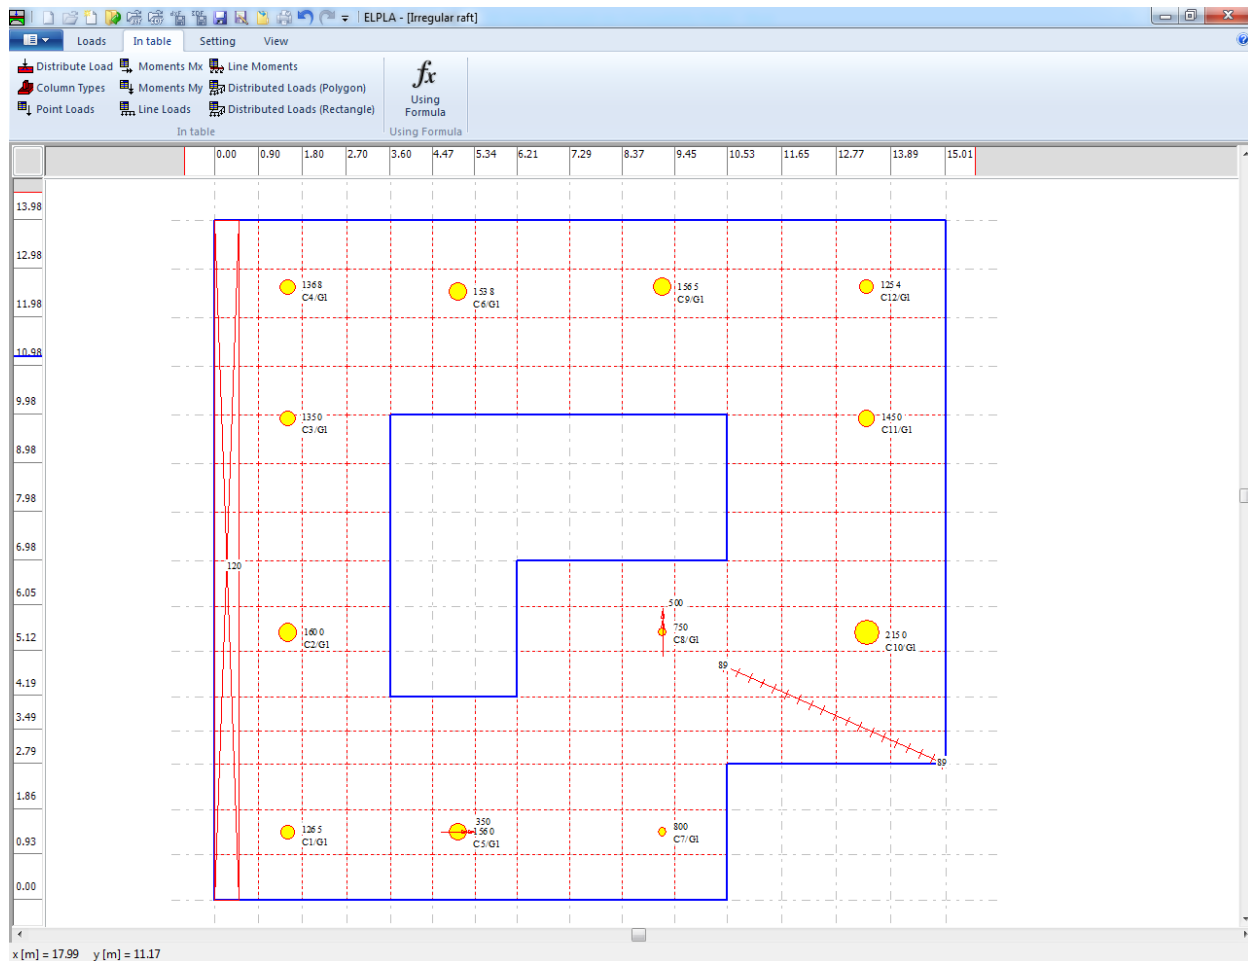

Figure 1.29 Loads
Repeat the previous steps for moments M_x , moments M_y , line loads and distributed loads using "Moments M_x ", "Moments M_y ", "Line loads" and "Distributed loads" commands from "Loads" Tab respectively. After that, the screen should look like the following Figure 1.29.
- Choose "Save" command from "File" menu in Figure 1.29 to save the load data
- Choose "Close" command from "File" menu in Figure 1.29 to close the "Loads" Window and return to *ELPLA* main window.